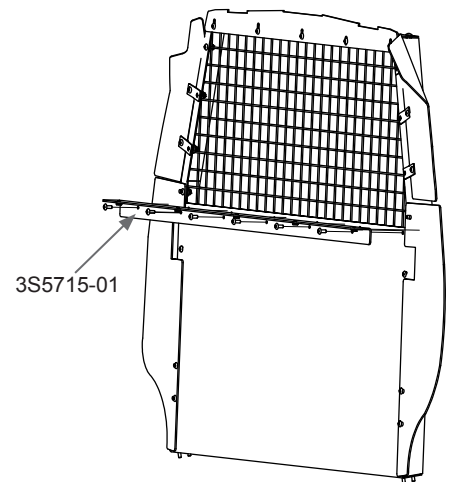

Fig. 1
A. Install seat support bracket 3S5715-01 onto the barrier using the 3X03 bolts and 3X16 nuts already installed on the barrier. Tighten all fasteners. (Fig. 1)